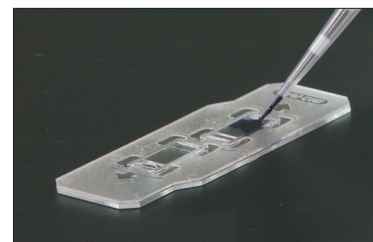

Fig. 1. Loading the sample onto a slide.
Pipet 10  $\mu\text{l}$  of the cell suspension into the **outer opening** of either of the two chambers of the counting slide (Figure 1).
2. Within 5 minutes of mixing, pipet 10  $\mu\text{l}$  of the mixture into the **outer opening** of either of the two chambers of the counting slide (Figure 1).